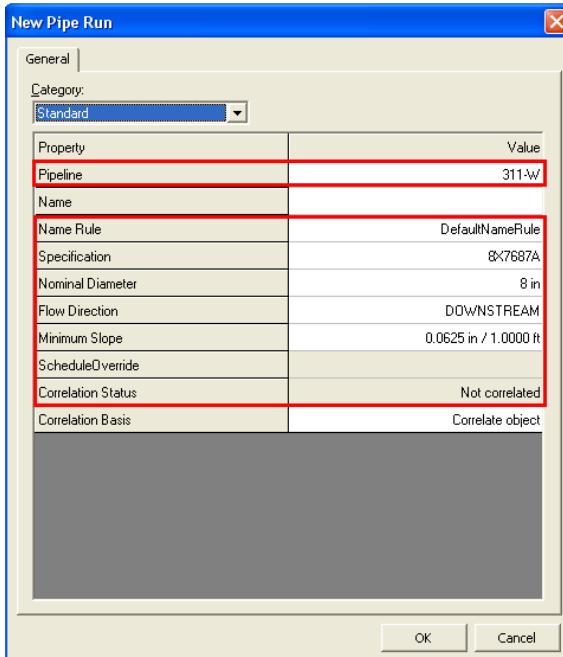

Figure 22: New Pipe Run Dialog Box
36. The **New Pipe Run** dialog box appears. Select the following specifications in the **New Pipe Run** dialog box, as shown in Figure 22, and click **OK**: